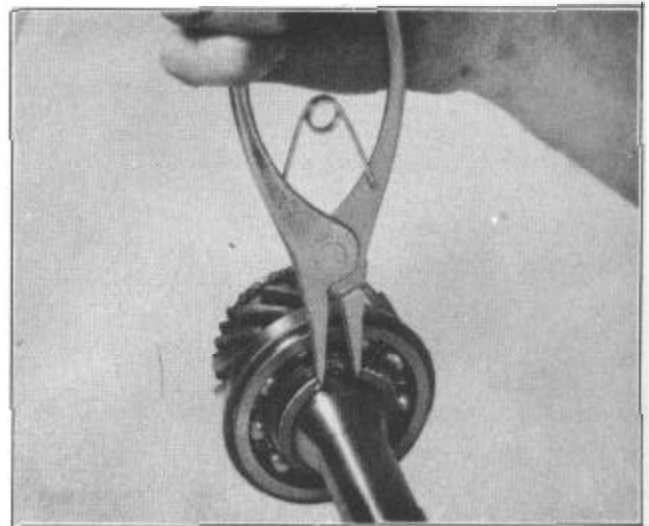

FIGURE 10
- a. To remove the bearing from main drive gear, remove the main drive gear lock ring. Figure 10.